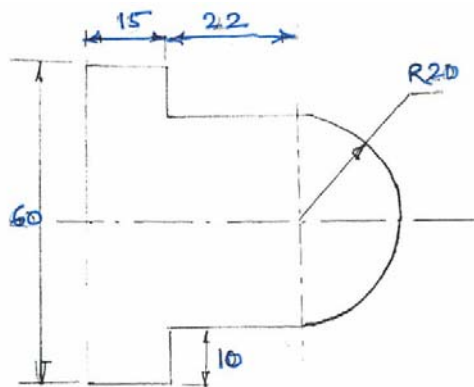

Fig. 1
- b)** Find centre of pressure for a MS part as shown in fig. 1. with 1 mm thickness. Take ultimate shear strength of MS as 200 MPa **[12]**